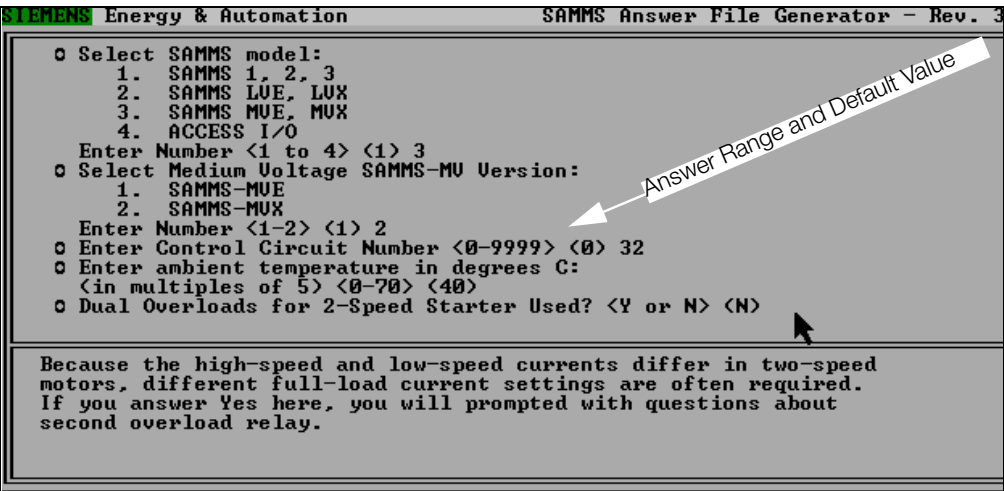

Figure 4.4 Answer Sheet for SAMMS Configuration (Pump_#25)—Example 1
- 4. An answer sheet appears. This sheet requests all relevant information about the SAMMS device including motor protection and control data. For each question, the range of answers as well as the default answers are shown between angular brackets (< >). Footnotes on the answer sheet provide helpful information for making choices. Refer to **Figure 4.4**. This section shows how to configure a SAMMS-MVX device to allow for a large number of configuration steps presented as examples.